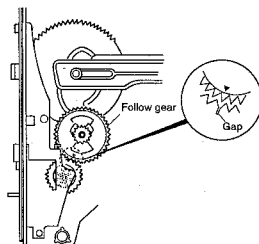

Fig. 14
- ① Mount the roller plate assembly in the position where the tooth with a triangle mark of the follow gear meshes with the gap of the gear of the roller plate assembly. (Fig.14)